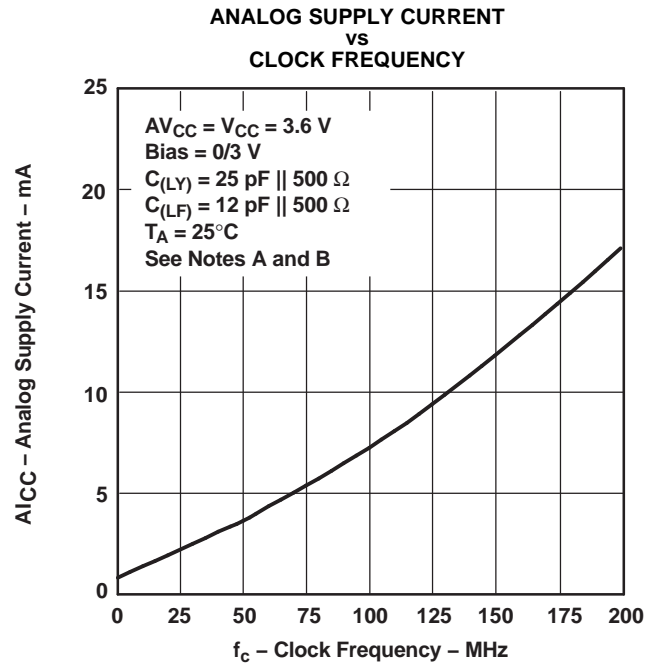
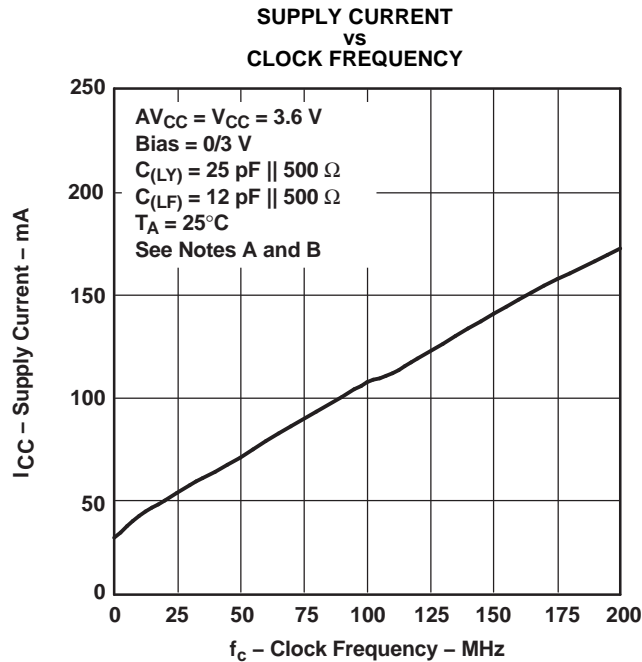

Figure 9.
Figure 10.
- (1) For conditions shown as MIN or MAX, use the appropriate value specified under recommended operating conditions.
- (2) For dynamic  $I_{CC}$  vs Frequency, see Figure 9 and Figure 10.